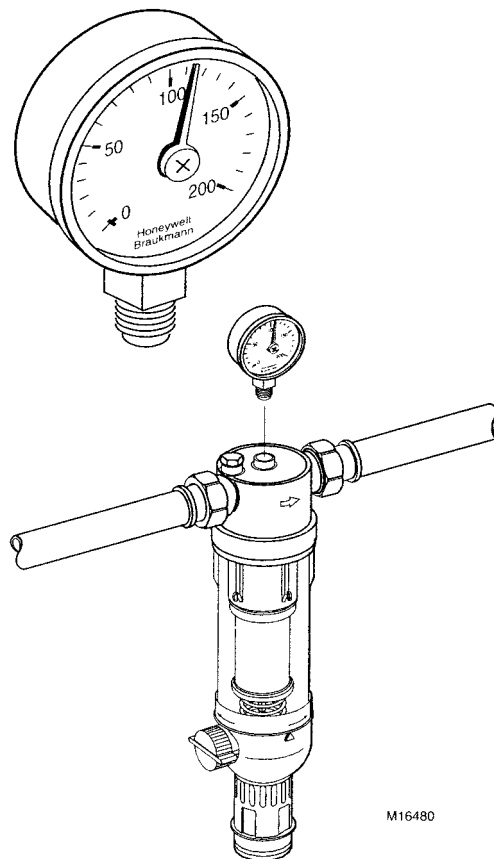

Fig. 4. Installing the F76S.
3. Install pressure gauge in the F76S center port (see Fig. 4).